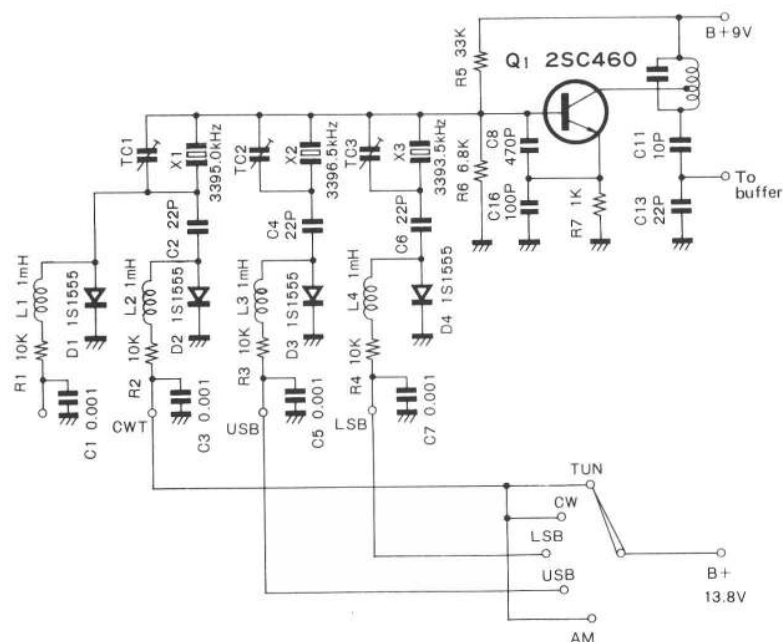

Fig. 2. Carrier OSC
3. CARRIER OSCILLATOR CIRCUIT (X50-0002-00) (See Fig. 2)